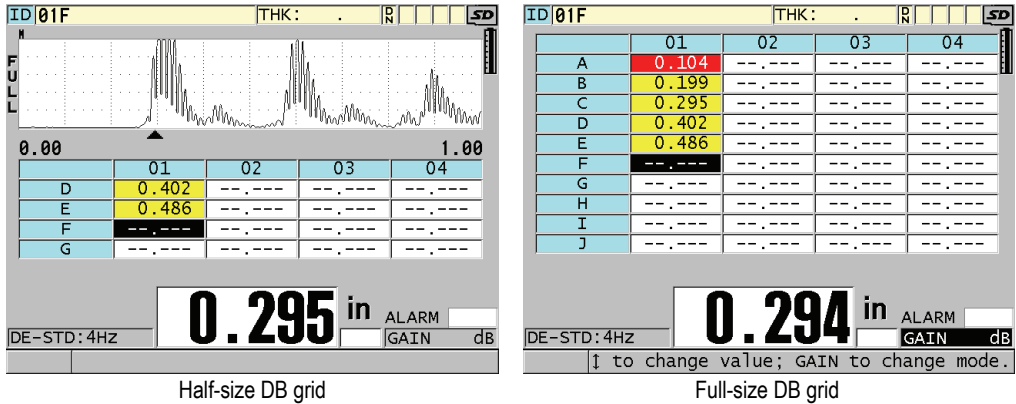

Figure 10-10 Example of half-size and full-size DB grids
5. Set **GRID SIZE** to one of the desired database grid size options (see Figure 10-10 on page 147):